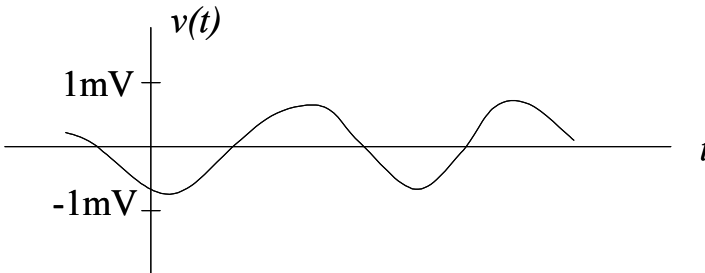

Figure 5. Signal derived from Magnetoresistive (MR) Read Head
- Figure 5 indicates the signal that the read head system produces. This contains data, that must now be extracted.
- The magnetoresistive read head. This can be viewed (for this discussion) to be a resistor with a time dependent resistance. The read head is supplied (biased) with a current that, in turn, generates a potential that depends on resistance and is, therefore, also time dependent. This signal, as shown in Figure 5, carries the encoded data.